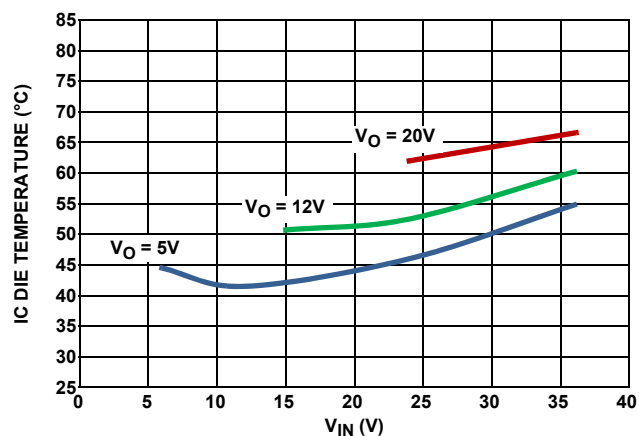

FIGURE 10. IC DIE TEMPERATURE UNDER +25°C AMBIENT TEMPERATURE, STILL AIR, 500kHz, $I_O = 2A$
- From the thermal perspective, the die temperature shouldn't exceed +125°C with the power loss dissipated inside of the IC. Figures 10 and 11 show the thermal performance of this part operating at different conditions.
Figures 10 and 11 show 2A and 2.5A applications under +25°C still air conditions over VIN range. The temperature rise data in these figures can be used to estimate the die temperature at different ambient temperatures under various operating conditions. Note that more temperature rise is expected at higher ambient temperature due to more conduction loss caused by $r_{DS(ON)}$ increase.